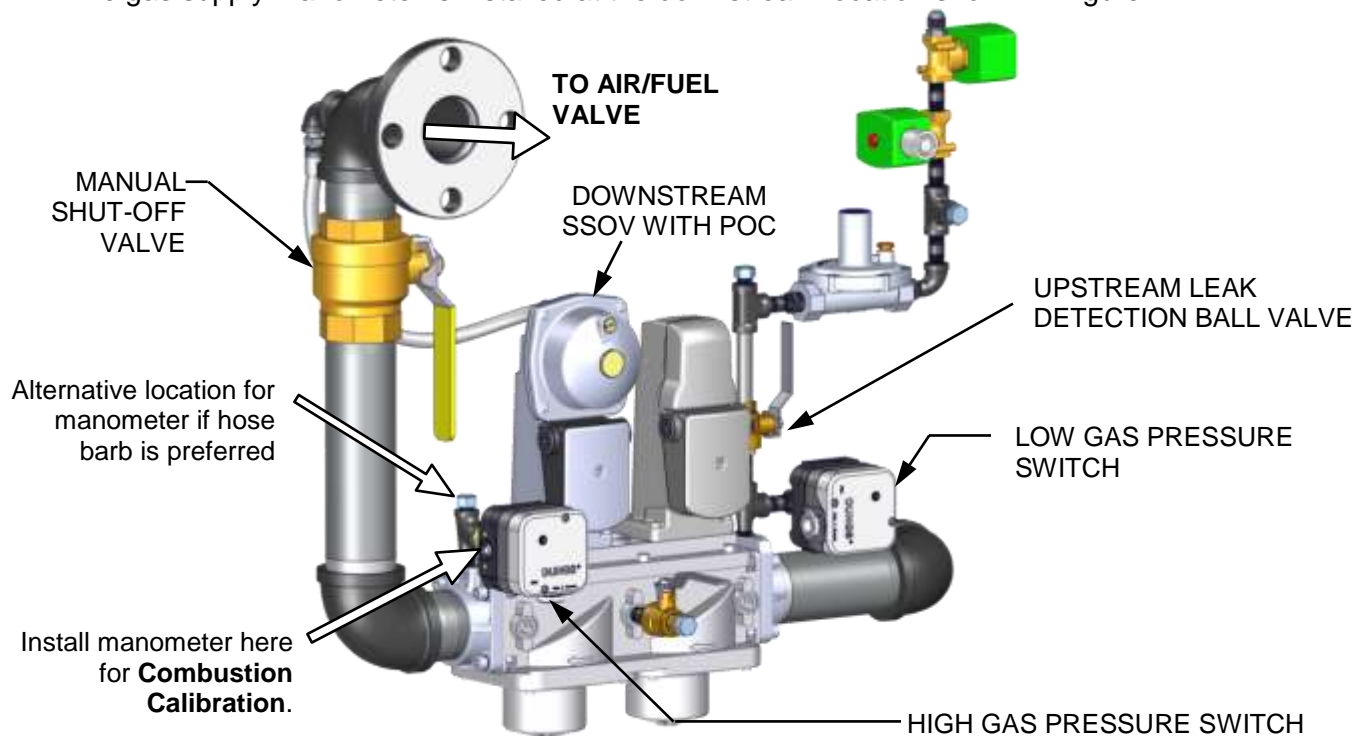

Figure 4-1: Port Location for Combustion Calibration
The gas supply manometer is installed at the upstream and/or downstream location shown in Figure 4-1.
The gas supply manometer is installed at the downstream location shown in Figure 4-1.
3. To monitor the gas pressure on the downstream side of the SSOV during Combustion Calibration (section 4.5.1 and/or 4.5.2, below), locate the port on the side of the High Gas Pressure switch, as shown in Figure 4-1, and loosen the screw inside a few turns to open it. *Do not remove this screw completely.* Alternatively, you can remove the 1/4 inch plug shown in Figure 4-1, above, and install a hose barb fitting in that location.
The Pilot Burner should be inspected at the beginning of each heating season, or every 6 months for continuous operation. It is constructed of high quality, heat resistant stainless steel, however some darkening of the metal is expected. No adjustment of the Pilot should be required, however the gas pressure downstream of the regulator should be checked if an ignition issue is encountered. Refer to Figure 4-1 for test port location.